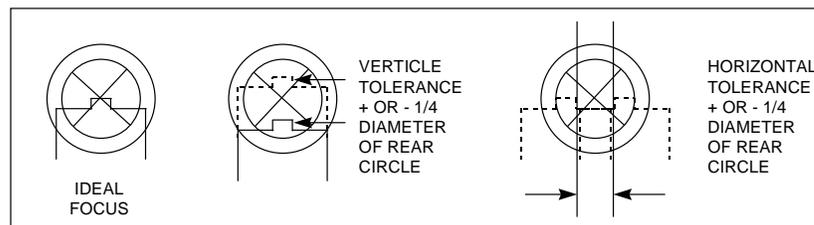

Figure 3-18
- k. Observe the focus fixture. Is it right or left or low? If so, turn only the third focus knob until the focus fixture is centered See Figure 3-18.